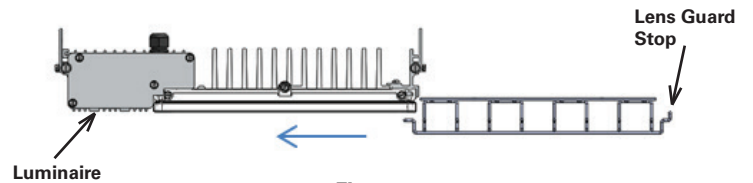

Figure 1
1. Align the lens guard with the end of the luminaire as shown in Figure 1. The lens guard is designed to be installed in one direction only.